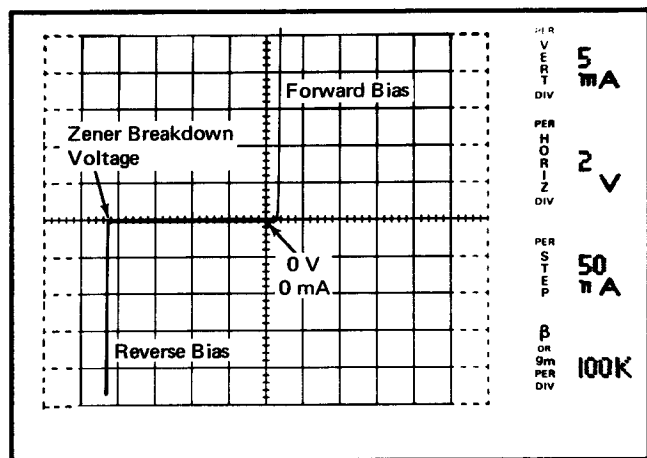

Fig. 2-10. Display of Zener diode I vs. V characteristic with POLARITY switch set to AC.
41. Set the LEFT-OFF-RIGHT switch to RIGHT and turn the VARIABLE COLLECTOR SUPPLY control clockwise. Note that the display shows both the forward and reverse characteristics of the Zener diode (see Fig. 2-10).